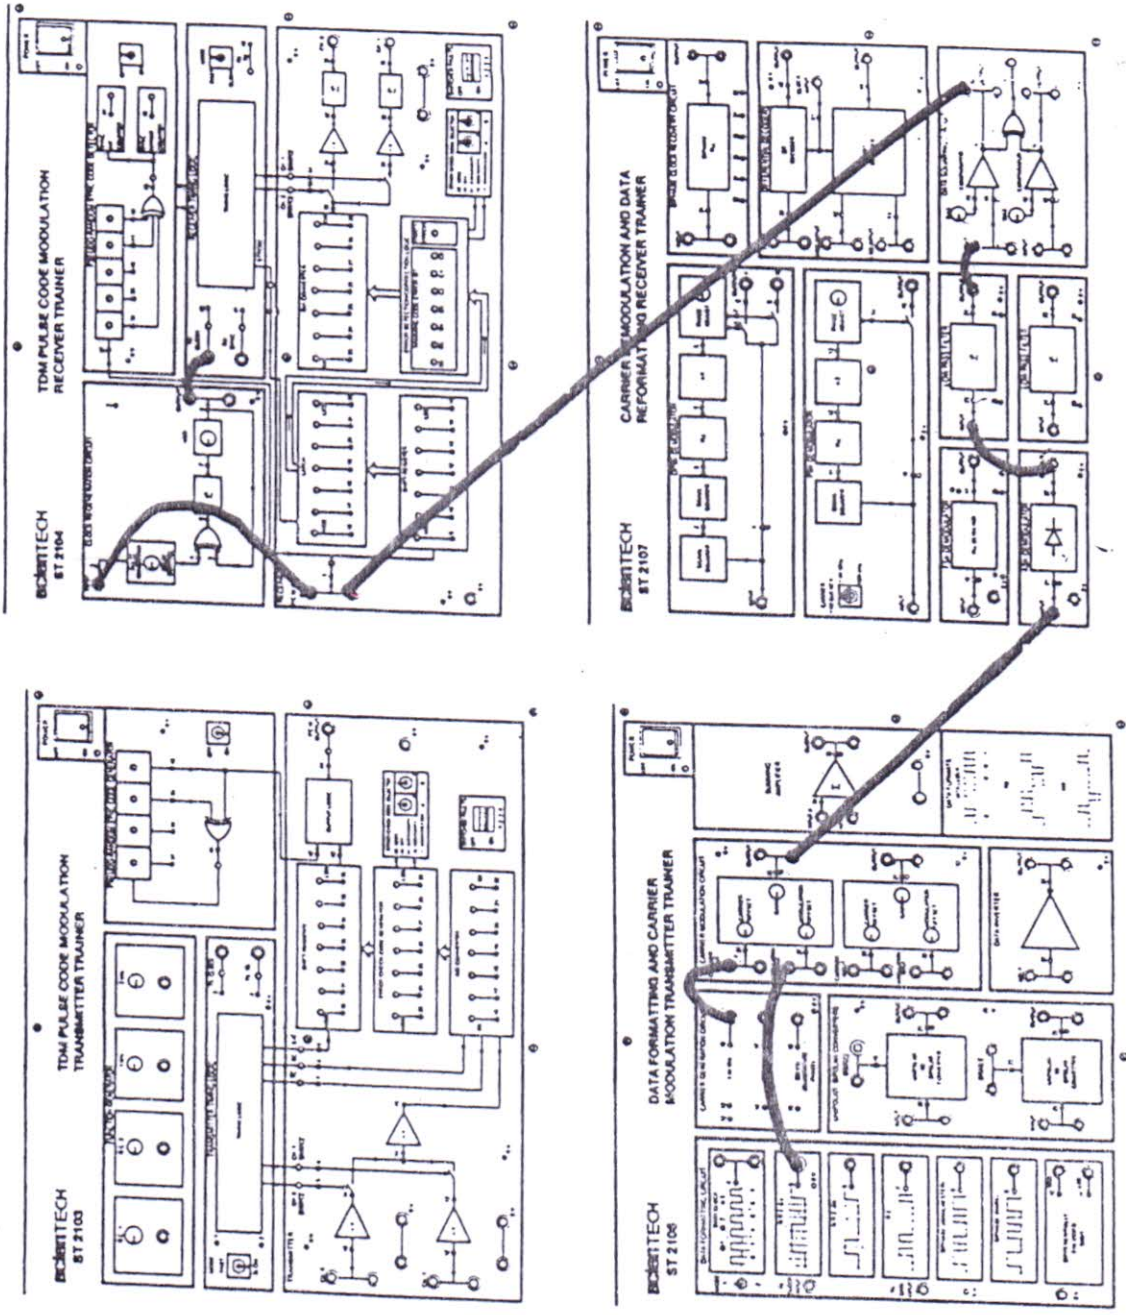

Fig. 24
(14) Switch OFF the power. Connect additional the board as shown in Fig.24 as follows :